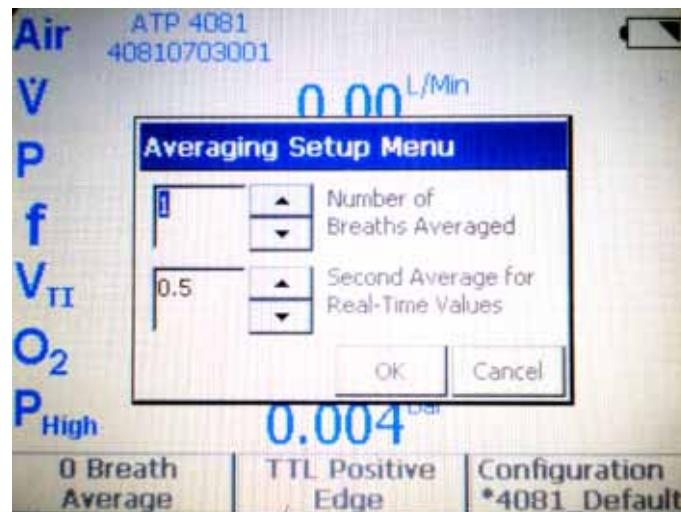

Figure 8-5: Averaging Setup Menu
2. Use the up or down direction arrows to select *1* for Number of Breaths Averaged and *0.5* for Second average for Real-Time Values (refer to Figure 8-5).
3. When the appropriate parameters are selected, touch **OK** (refer to Figure 8-5).